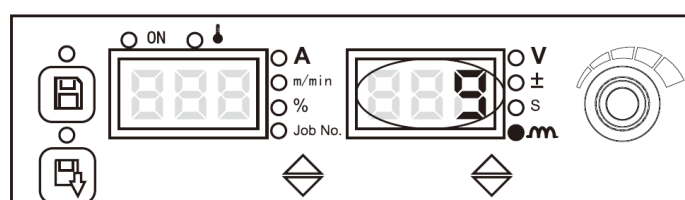

Figure 3-3 View screen of arc dynamics
2. Right digital tubes will indicate arc feature value, as shown in Figure 3-3.